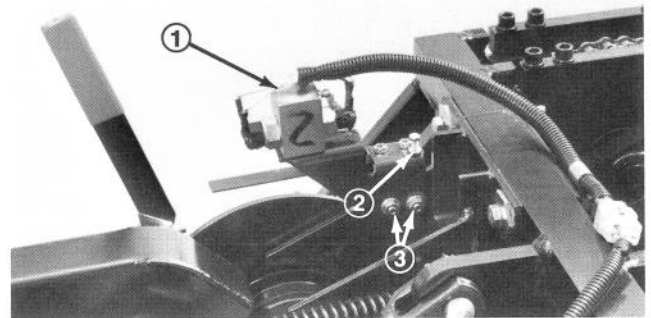

Figure 23
5. Check coring head switch (Fig. 23) with a continuity tester or ohm meter and replace if damaged. The switch plunger must be depressed when the coring head is in the raised position.